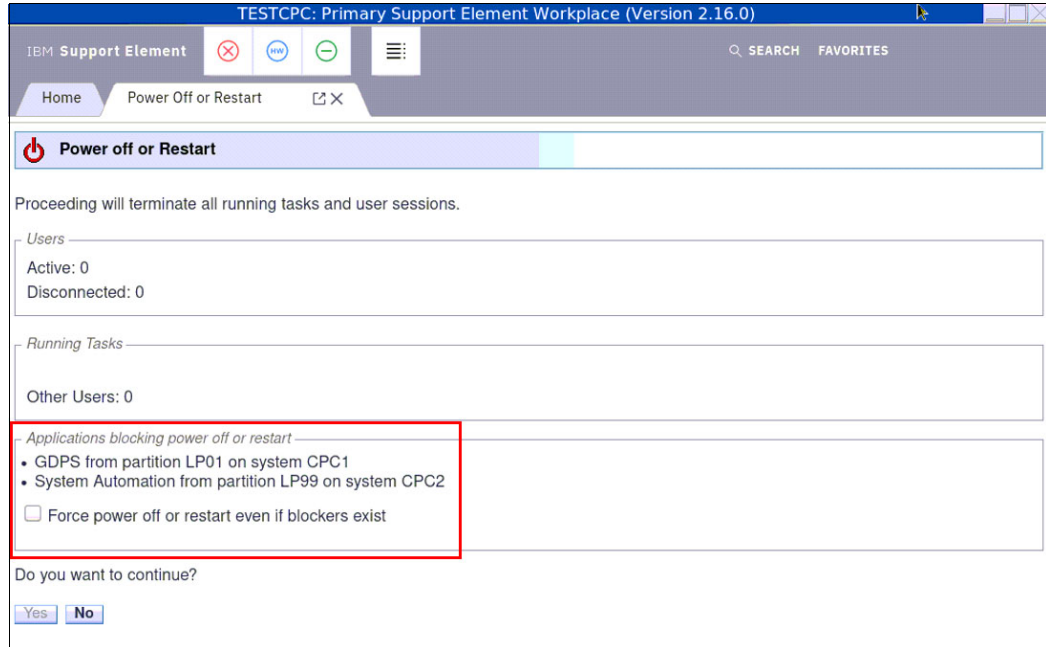

Figure 10-6 New information/question for SE power off or restart regarding GDPS or SA
With IBM z16 A02 and IBM z16 AGZ the SE and the BCPii for GDPS and System Automation (SA) has an improved communication to not disturb important task on each side. For example if you try to restart an SE and GDPS or SA is doing some important task, the restart panel ask for confirmation to force the restart as shown in Figure 10-6.